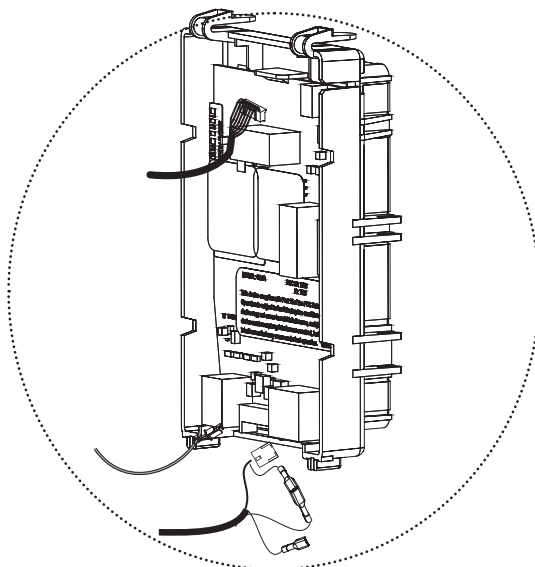

Fig. 15B
1. Connect the outside reader ribbon cable to the top of the battery housing (See Fig.15B for detail).